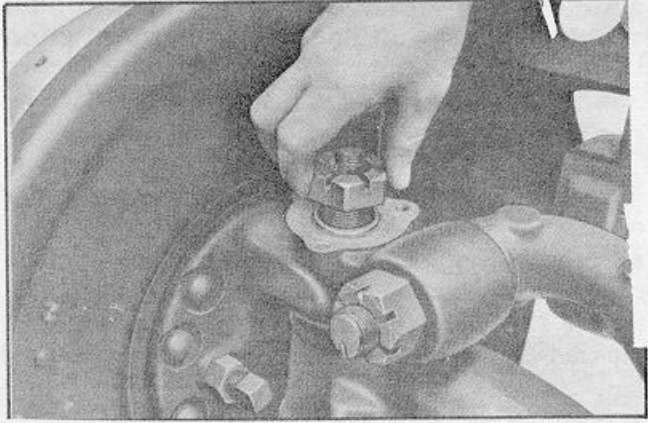

Figure 9
- D. Remove knuckle pin cotter key and nut (Figure 9).